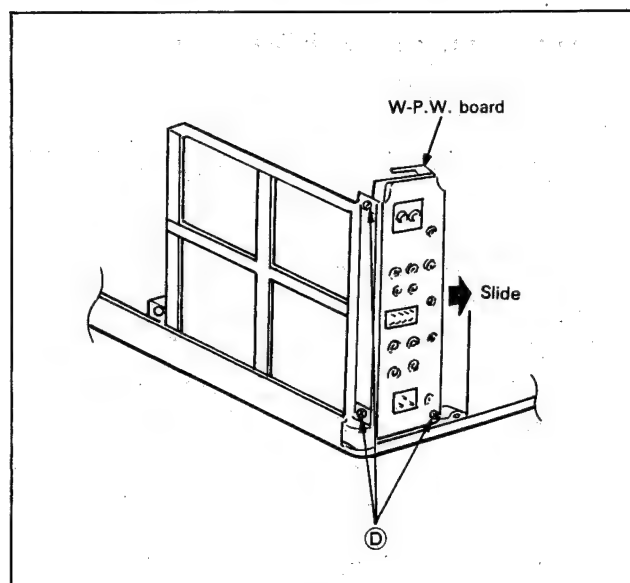

Fig. 7
1. Remove 3 screws ④.
2. Slide W-P.W. board as shown in Fig. 7.